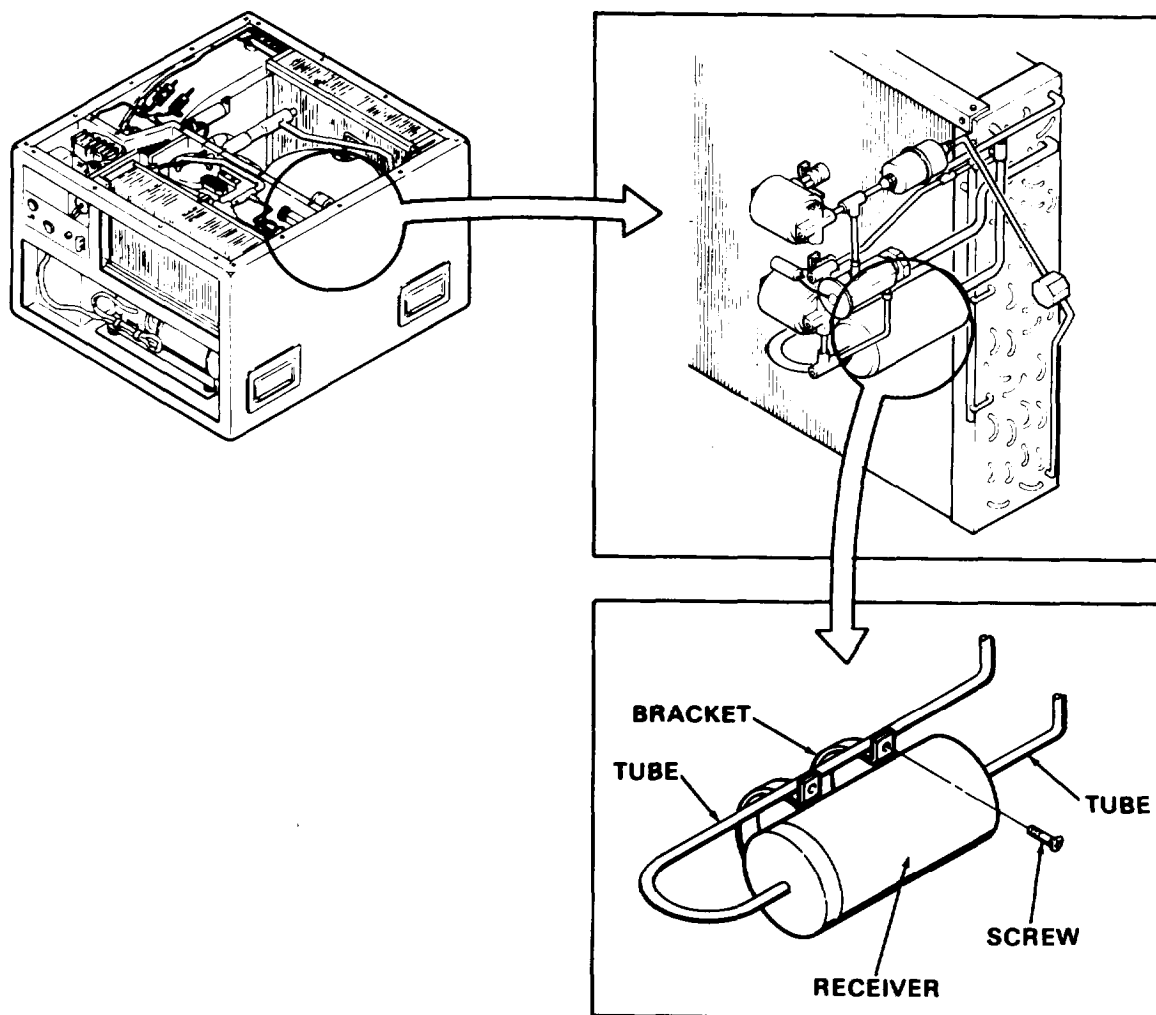

Figure 5-6. Receiver
- (2) Refer to paragraph 4-18 and remove rear top cover.
- (3) Refer to figure 5-6 and remove dehydrator.
- (4) Unsolder dehydrator from refrigerant system tubing.
- (1) Refer to paragraph 6-3 and discharge the refrigerant system.
- (3) Refer to figure 5-6 and remove receiver mounting bracket.
- (4) Unsolder receiver from refrigerant system tubing.
- (1) Refer to figure 5-6 and mount receiver on compartment wall.